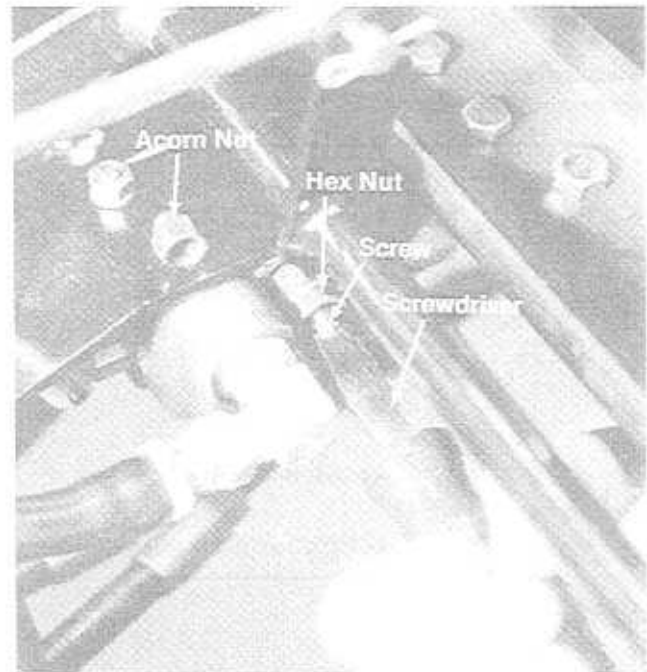

FIGURE 25.
1. Remove the acorn nut and washer. See figure 25.